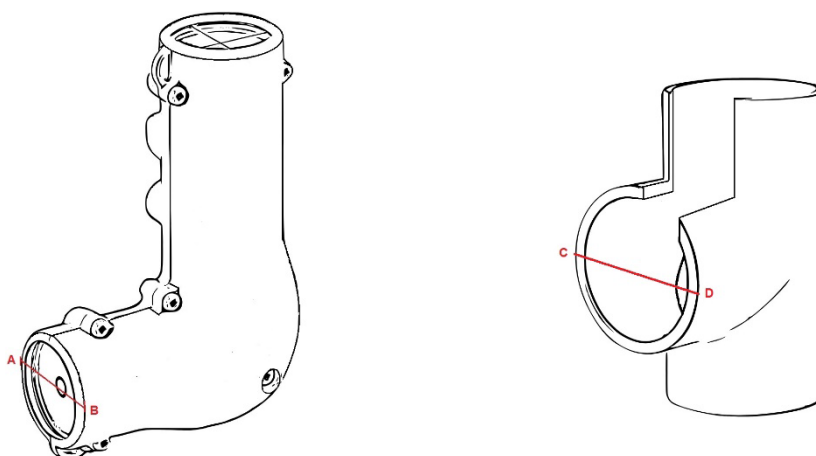

Figure 1. The point at which to measure diameter for the densitometer (left) and PVC tee socket (right) is indicated by the red lines.
- 1 Measure the diameter of the lens of the densitometer including the outside rim (see Figure 1). The diameter of the densitometer lens will determine the size of the PVC tee socket and PVC faucet tee required for the mount.
- 3 Measure the diameter of the PVC tee socket, including the outside rim (see Figure 1).